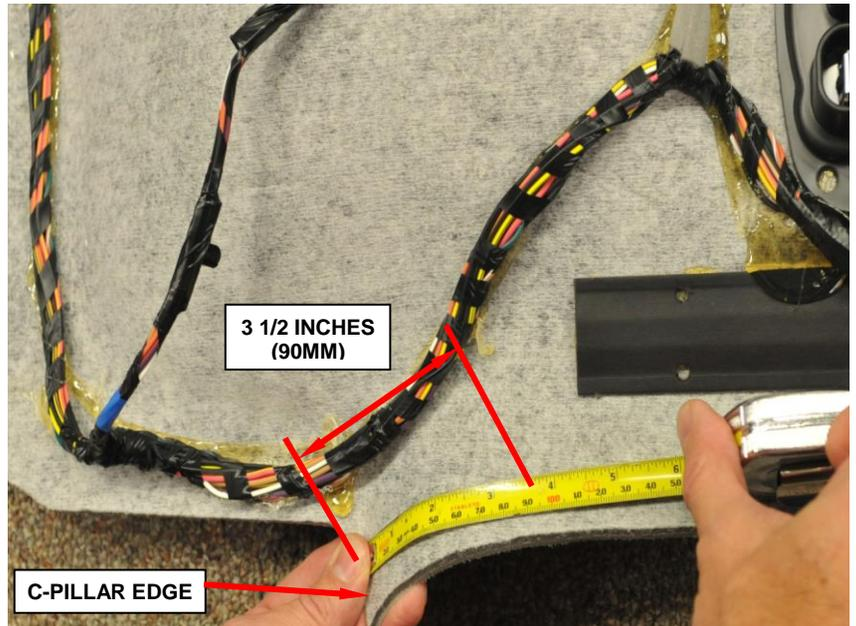

Figure 32 – Mark 3 1/2 inches (90mm) Location on Headliner
1. On the right side of the headliner, measure 3 1/2 inches (90mm) from the C-Pillar edge of the headliner and mark the headliner for the rear edge of the foil patch (Figure 32 and 33).
2. Measure 3/8 inch (10mm) from the outer edge of the headliner and mark the headliner for the outboard edge of the foil patch (Figure 32 and 33).